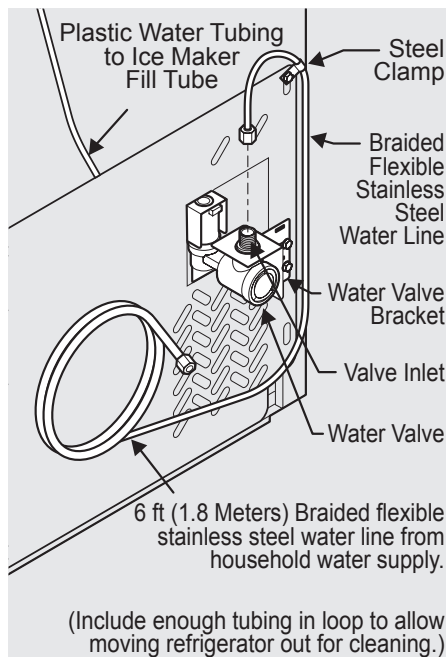

Figure 2
**If you use braided flexible stainless steel tubing** - The nut is already assembled on the tubing. Slide nut onto valve inlet and finger tighten nut onto valve. Tighten another half turn with a wrench; DO NOT over tighten. See Figure 2.